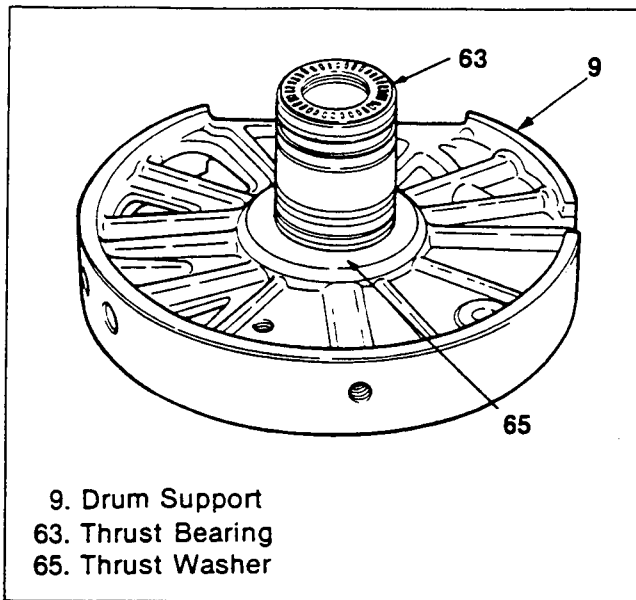

Figure 278. Drum Support Thrust Bearing and Thrust Washer Installation
Thrust Washer and Thrust Bearing (Figure 278)
2. Apply Vaseline to the thrust bearing and attach it to the drum support (figure 278).